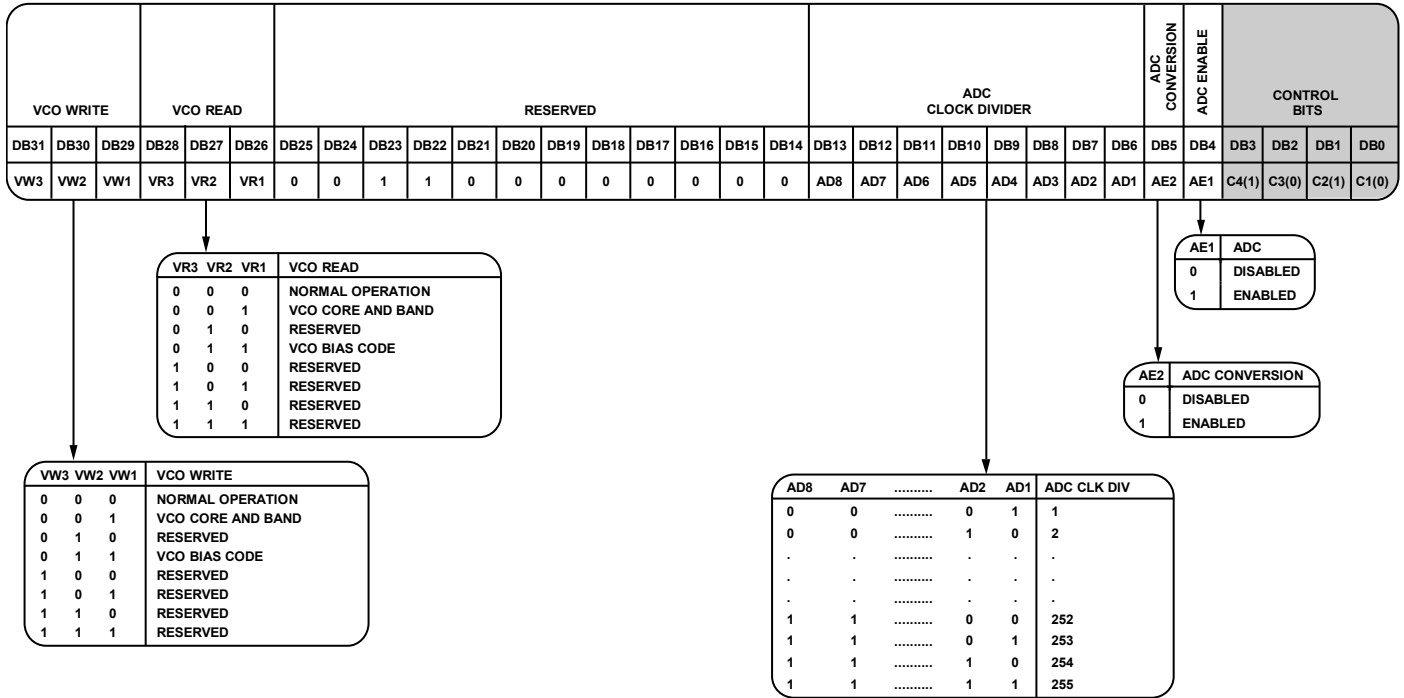

Figure 5. Register 10
- a. Ensure VCO read is set to VCO core and band (R10, DB[28:26] = 0b001) (see Figure 5).